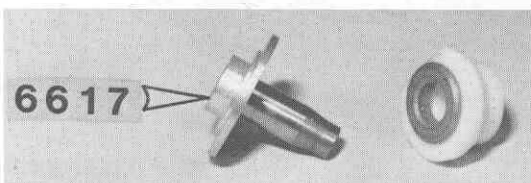

Fig. 57
- ☐ **Fig. 57** Take the #6617 dif tube out of the bag.